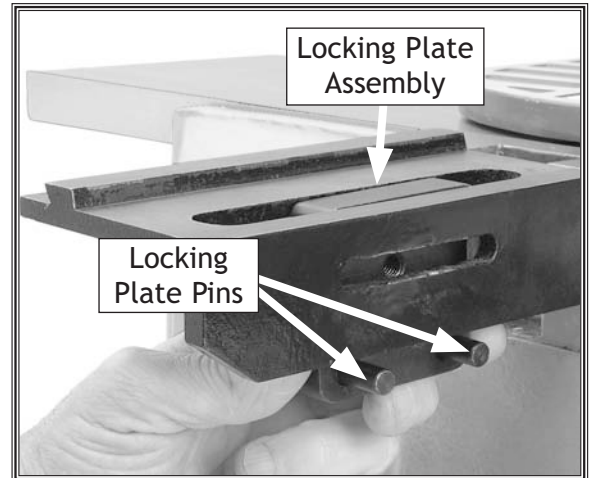

Figure 13. Inserting the locking plate.
3. Insert the locking plate assembly into the fence support, positioning it so the two pins are against the bottom edge of the fence support, as shown in Figure 13.